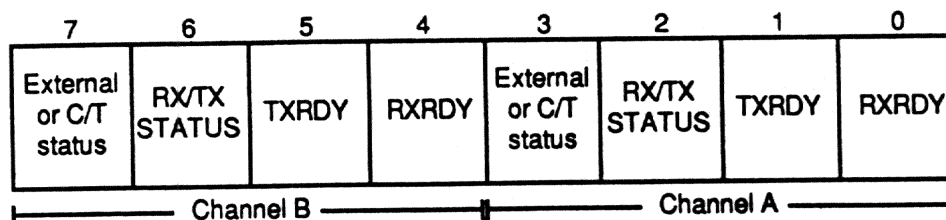

Figure 7-12: General Status Register for the DUSCC
7.2.11.1 General Status Register (GSR) - There is one General Status Register (GSR) for the entire device which summarizes the status of both channels. Figure 7-12 shows the format of the register.